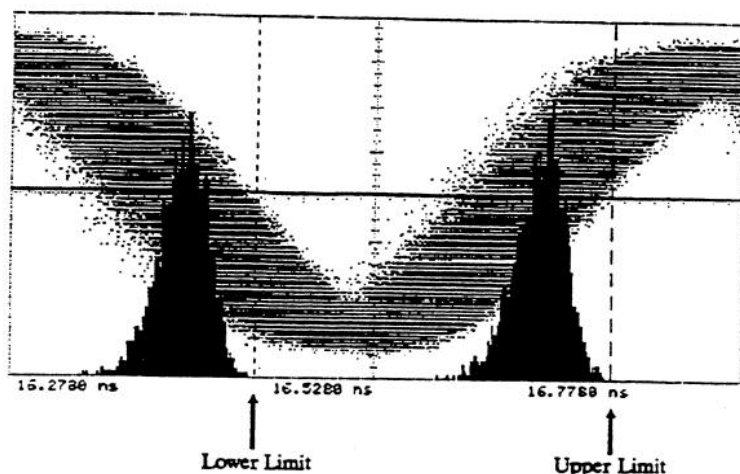

Figure 4-3. Upper and Lower Distribution Limits
Upper distr limit set upper distribution limit with RPG knob to the right side of the distribution on the POS slope of signal as shown in figure 4-3.
17. Adjust lower distribution marker to right edge of the left distribution as shown in figure 4-3.